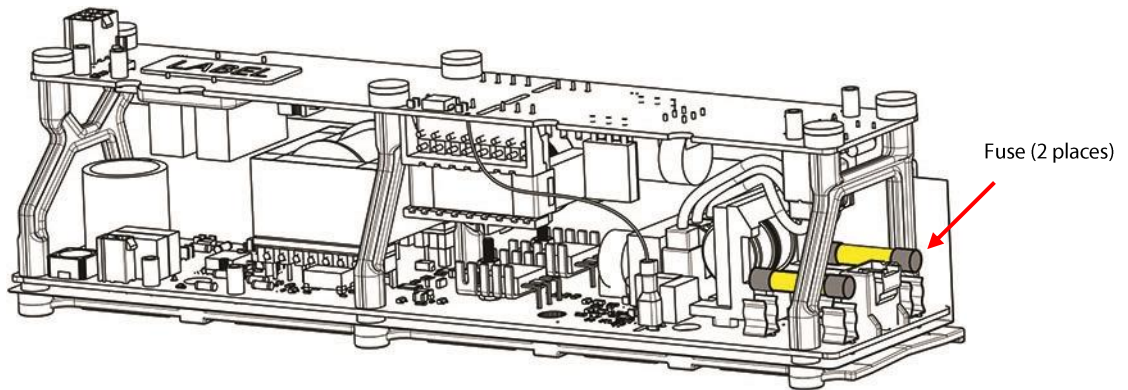

Figure 4 – Fuse Removal
5. Remove both fuses. Refer to Figure 4 – Fuse Removal.